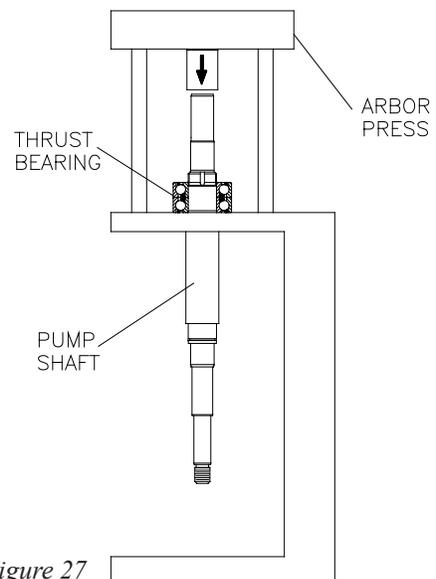

Figure 27
Stand the pump shaft on end (impeller end down) and slowly heat the inner race of the radial bearing (18) with the flame torch until it drops off the pump shaft. Loosen the bearing lock nut (6) with the spanner wrench. Remove the bearing lock nut and lock nut washer (7) from the pump shaft. Press the thrust bearings (8) off the pump shaft using an arbor press with caution to prevent damaging the pump shaft in the process (**Figure 27**). Remove the outer race radial bearing from the bearing block.